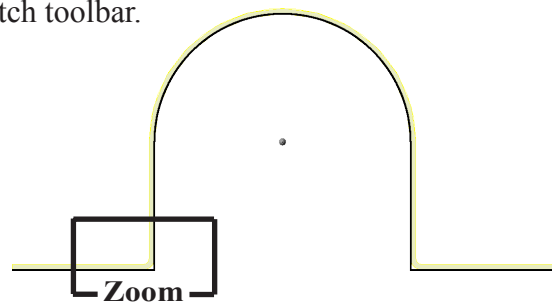

Fig. 5
Step 11. Zoom in around **corner, Fig. 5**. To **zoom**, place the cursor over the corner and spin the wheel on mouse back. While spinning the wheel keep cursor on corner.